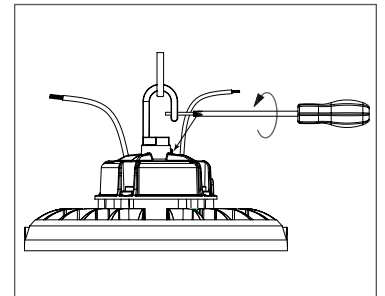

FIGURE 5
- D) Use screw to secure fixture. Prior to making wiring connections and restoring power to fixture, set the desired wattage. (FIGURE 5)